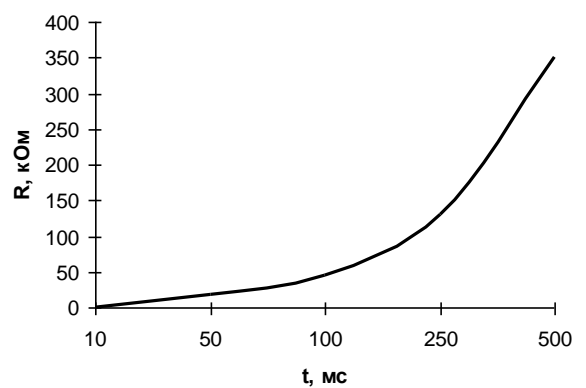

Figure 10 – Dependence of control circuit blocking duration after emergency versus resistance rating  $R_{block}$
**Rblock** – resistor for adjustment of control circuit blocking duration in an emergency mode. Blocking duration is 1 sec at the resistor is not installed, at an shorted resistor is 10 ms. Initially (initial settings at supply) a resistor is installed corresponding to blocking duration 100 ms. Dependence of blocking duration versus the resistor rating is shown on Figure 10.